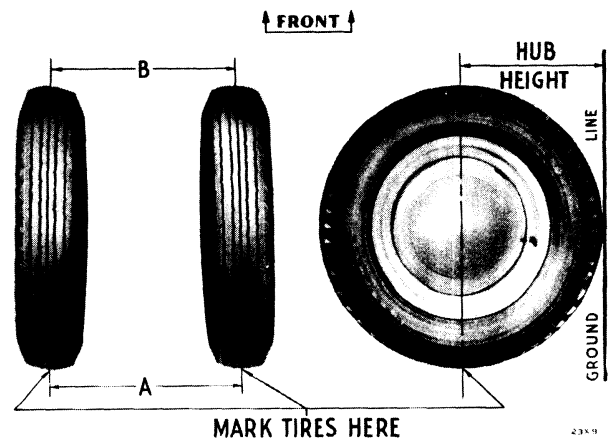

Fig. 77—Front Wheel Toe-In
- (1) Raise front end of car until front wheels clear the turntables.
- (2) Spin front wheels and scribe broad chalk lines on center tread all around tire.
- (3) Use a pointed tool to scribe a fine hairline within the broad scribed chalk line.
- (4) With front wheels straight-ahead, lower car until full weight rests on the turntables. This allows free movement of wheels to settle into the normal position they would assume when car is in motion.
- (5) After car has come to rest on turntables, use Tool C-695 to measure at hub height the distance between points (A) and between points (B) of front and rear of front wheels (Fig. 77). Distance between points (A) should not exceed that of points (B) by more than  $\frac{1}{16}$  inch. Equal distances between points (A) and points (B) are preferable.